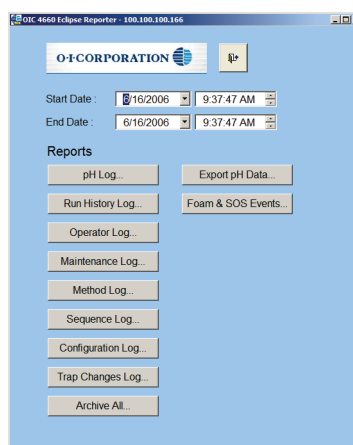

Figure 6.26. Eclipse Reporter Reports screen
The Reports feature generates and accesses reports compiled from the Eclipse's database and is only available on the Eclipse PC software; versions prior to 2.1 require Microsoft Access be installed on the PC. Press the **Reports** icon to open the Reports screen (Figure 6.26).
- Select the **Start Date** and **Time** and **End Date** and **Time** to define the report (see Figure 6.26).
4. Select the **Start Date** and **Time** and **End Date** and **Time** to define the report (see Figure 6.26).